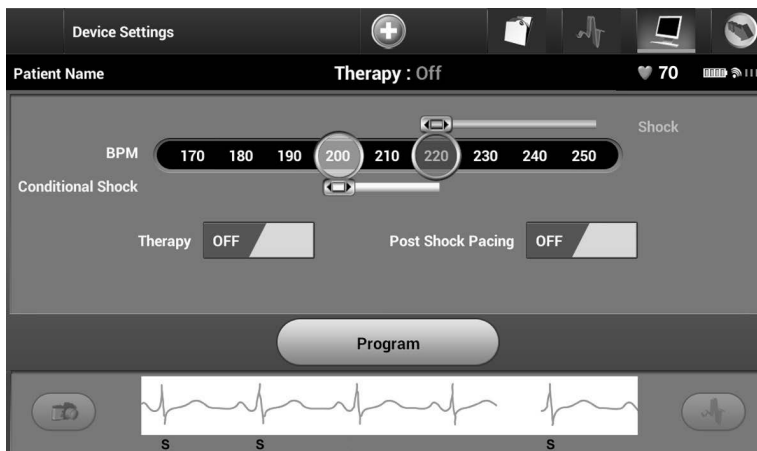

Figure 29: *Device Settings screen*
- Select the Device Settings icon on the Navigation Bar to display the Device Settings screen (Figure 29).